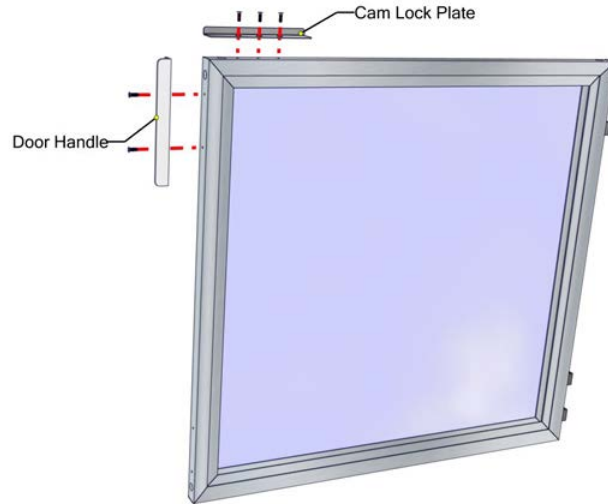

Fig. 47: Remove Cam Lock and Handle
3. Unscrew the Door Handle and Cam Lock Plate from their present position and move them to the other side of the door. Make sure to “mirror” the Cam Lock Plate so that its top flange will be flush against the warming cabinet when the door is reinstalled in its new position (Fig. 47).